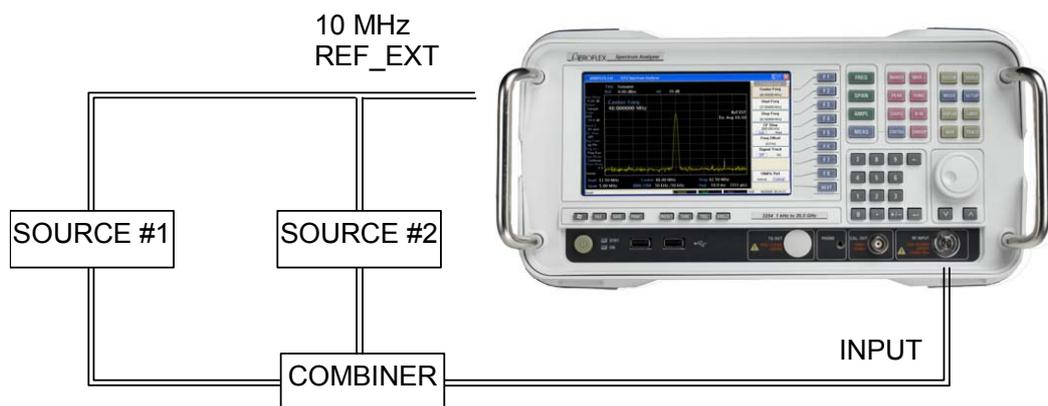

Fig. A-2 Setup for obtaining two signals
- 1 Connect two sources to the analyzer's RF INPUT as shown in Fig. A-2.
- 1 To obtain two signals with a 200 kHz separation, connect the equipment as shown in Fig. A-2. Set one source to 300 MHz at 0 dBm.